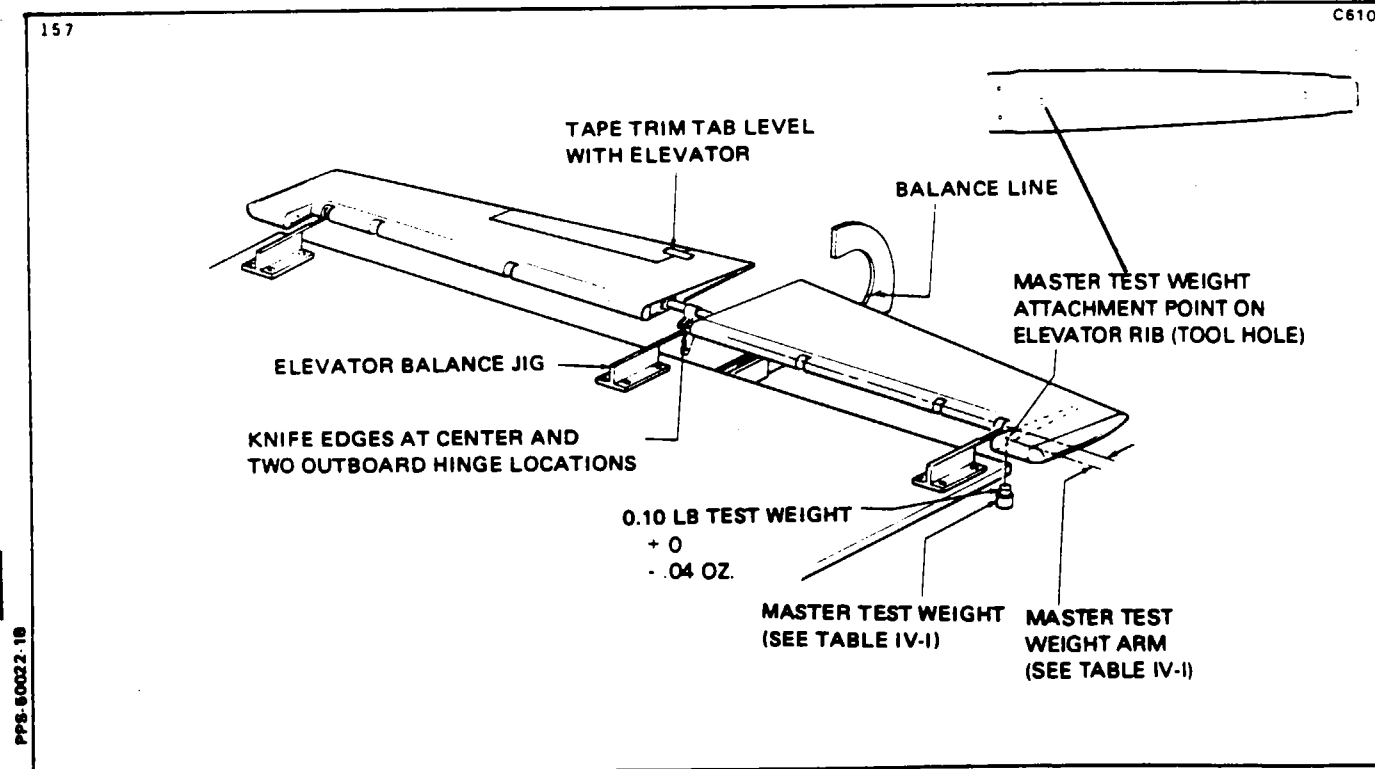

Figure 4-17. Elevator Balancing
4-95. ELEVATOR BALANCING PROCEDURE. (Refer to Figure 4-17.)
- d. Hang the fabricated master test weight in the tool hole of the elevator counterbalance rib assembly part number 43745. Check the master test weight arm location as shown on Figure 4-17 and defined in Paragraph 4-93, and specified in Table IV-I.